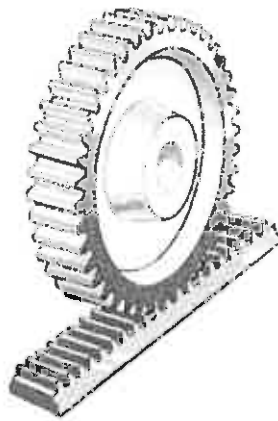

Figure 4
- 3.2 Identify the mechanism Figure 4 and explain its function by referring to an application. (4)